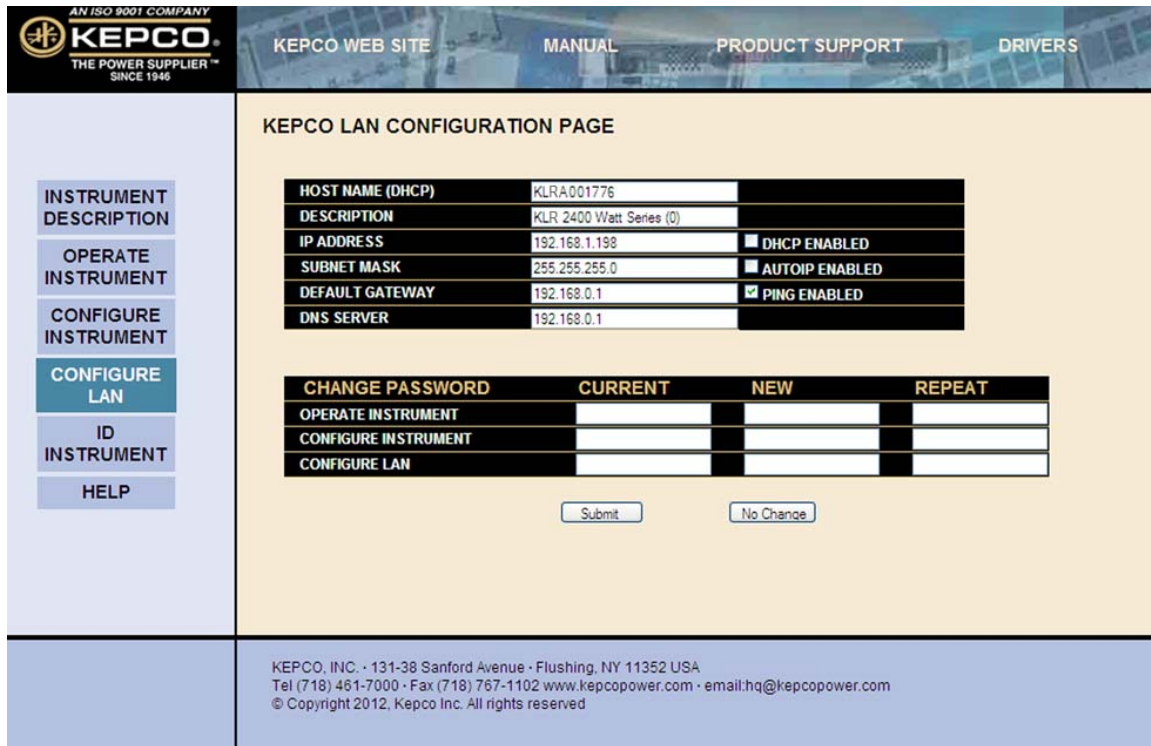

FIGURE 3-6. WEB INTERFACE CONFIGURE LAN PAGE
Click on CONFIGURE LAN at the left to view the LAN Configuration page (Figure 3-6). The parameters that can be configured from this page are Host Name (DHCP), Description, IP Address, Subnet Mask address, Default Gateway Address, and DNS Server Address. Separate checkboxes allow enabling of DHCP, AUTOIP and PING. Descriptions of these terms can be viewed by clicking the HELP box at the left. If a data entry fault condition exists, an alert window indicates the type of fault. Click OK to close the window; the SUBMIT button is disabled until the fault is corrected.
- The CONFIGURE LAN password restricts the ability to change the LAN configuration parameters shown on the CONFIGURE LAN page (Figure 3-6). Default is blank.